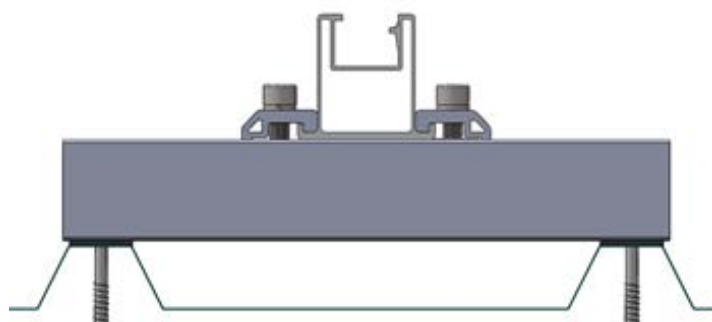

Figure 6
3) Fix the Rail onto the MT-Rail Support with T-Rail Clamps as shown in Figure 6 and 7.